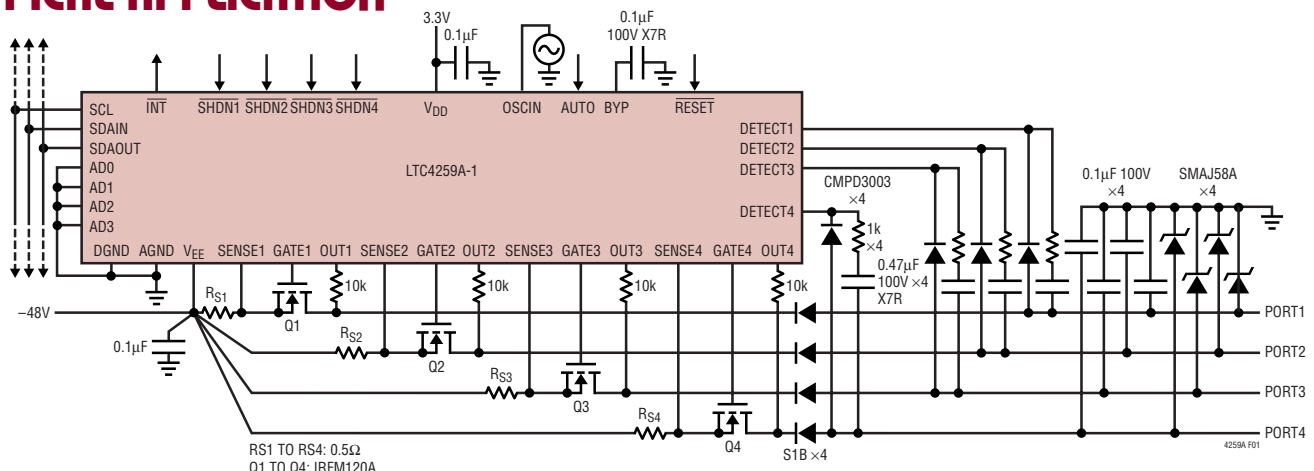

Figure 1. Complete 4-Port Powered Ethernet Power Source
The LTC[®]4259A-1 is a quad –48V Hot Swap[™] controller designed for use in IEEE 802.3af compliant Power Sourcing Equipment (PSE). It consists of four independent ports, each with output current limit, short-circuit protection, complete Powered Device (PD) detection and classification capability, and programmable PD disconnect using AC or DC sensing. Used with power MOSFETs and passives as in Figure 1, the LTC4259A-1 can implement a complete IEEE 802.3af-compliant PSE.